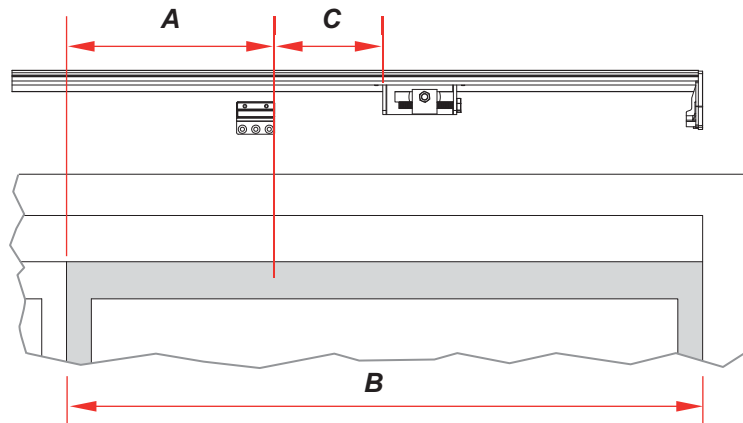

Figure 11: Left-opening sliding door: belt tensioner and bottom bracket. The right side is shown with sliding door closed.
Slide each cover clip onto the base as in Figure 11. Make sure the other end of each cover clip (without sliders) **points towards the door**.
2. Slide the belt tensioner along the base until it is in front of **closed sliding door** as shown in Figure 11, where:
4. Mark the position of the bottom bracket on both the **base** and the **door** as in Figure 11.